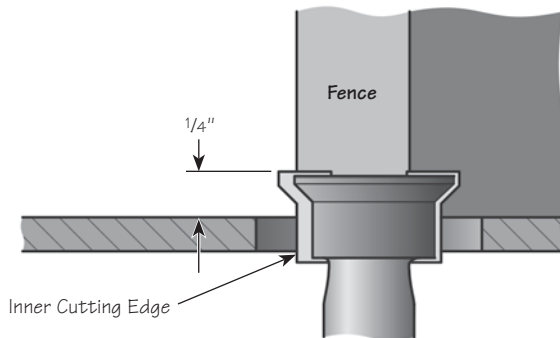

Figure 5: Setting the bit and fence.
2. Set the height of the bit to $\frac{1}{4}$ ". Position the router fence so that it is just proud of the inner cutting edge, as shown in **Figure 5**.